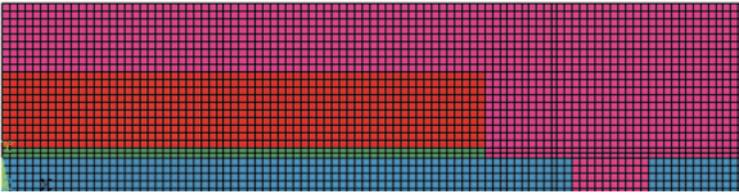

Fig. 9.72 Mesh representing the electronic device
- *Plot Numbering Controls* dialog box appears; remove the checkmark next to **AREA Area numbers** by clicking on the box. Select **Material Numbers for Elem/Attrib numbering** pull-down menu; select **Colors only** from the pull-down menu next to **[/NUM] Numbering shown with**; click on **OK**. When elements are plotted, they appear in different colors based on their material reference numbers, as shown in Fig. 9.72.